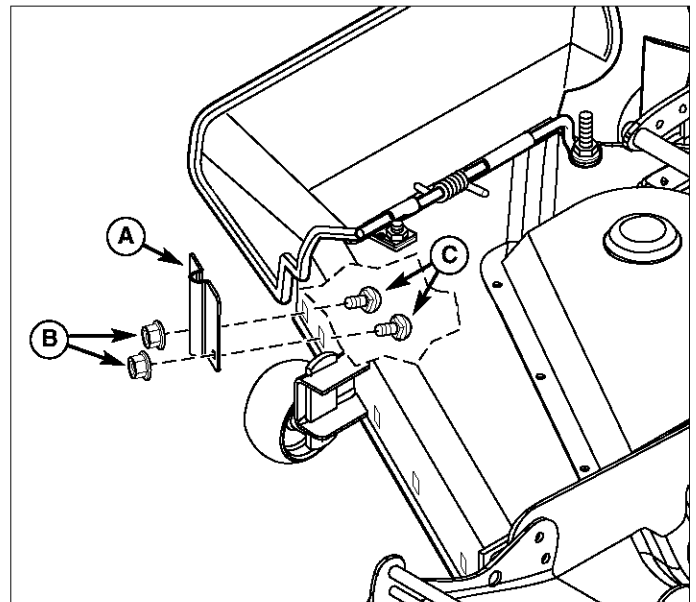

Figure 2. Install Mounting Plate
1. Install mounting plate (A, Figure 2) to mower deck as shown. Secure with 5/16-18 x 5/8 carriage bolts (C) and 5/16-18 locknuts (B).